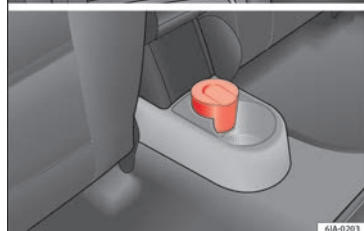

Fig. 70 Centre console: front ashtray/rear ashtray.
- Pull the ashtray »» Fig. 70 upwards to remove.